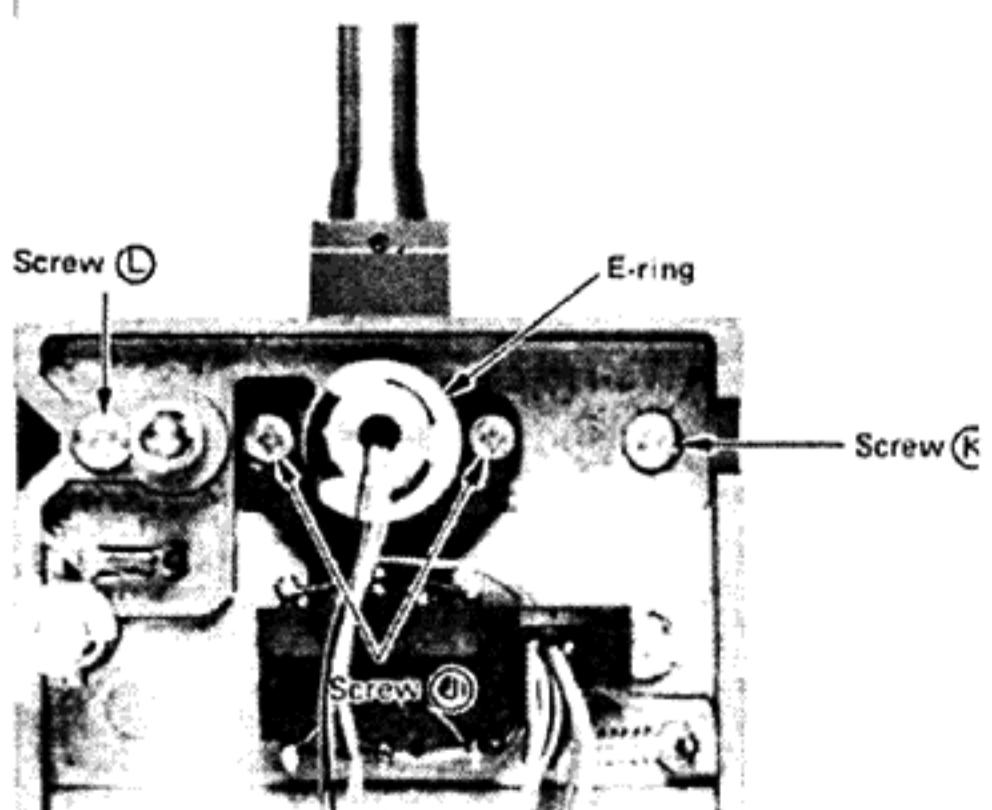

Fig. 7
- 6) Remove the E-ring, two screws **J** and two screws **K** and **L**, referring to Fig. 7. Now, the tonearm can be taken off.